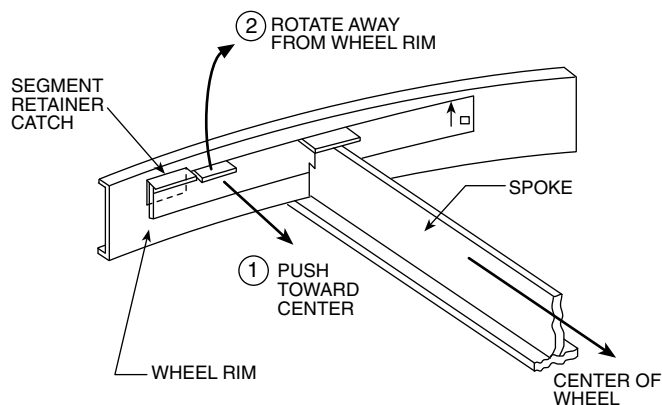

Fig. 181 — Segment Retainer
2. Before applying power to the drive motor, confirm that the wheel segments are fully engaged in the wheel frame and that the segment retainers are completely fastened. (See Fig. 181.)
4. If the wheel has difficulty starting, turn the power off and inspect for excessive interference between the wheel surface and each of the four (4) diameter seals. To correct, loosen the diameter seal adjusting screws and back adjustable diameter seals away from the surface of the wheel, apply power to confirm that the wheel is free to rotate, then re-adjust and tighten the hub and diameter seals according to the instructions in the Service section.